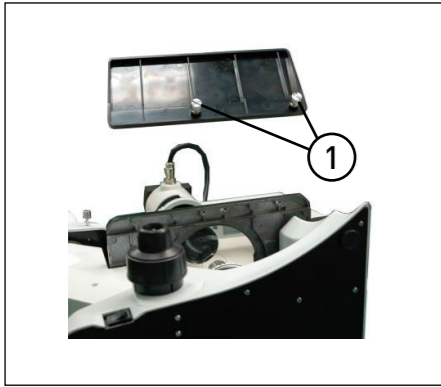

FIGURE 8
2.2.5 Installing the stage lengthen splint and the mechanical ruler (Fig. 8)